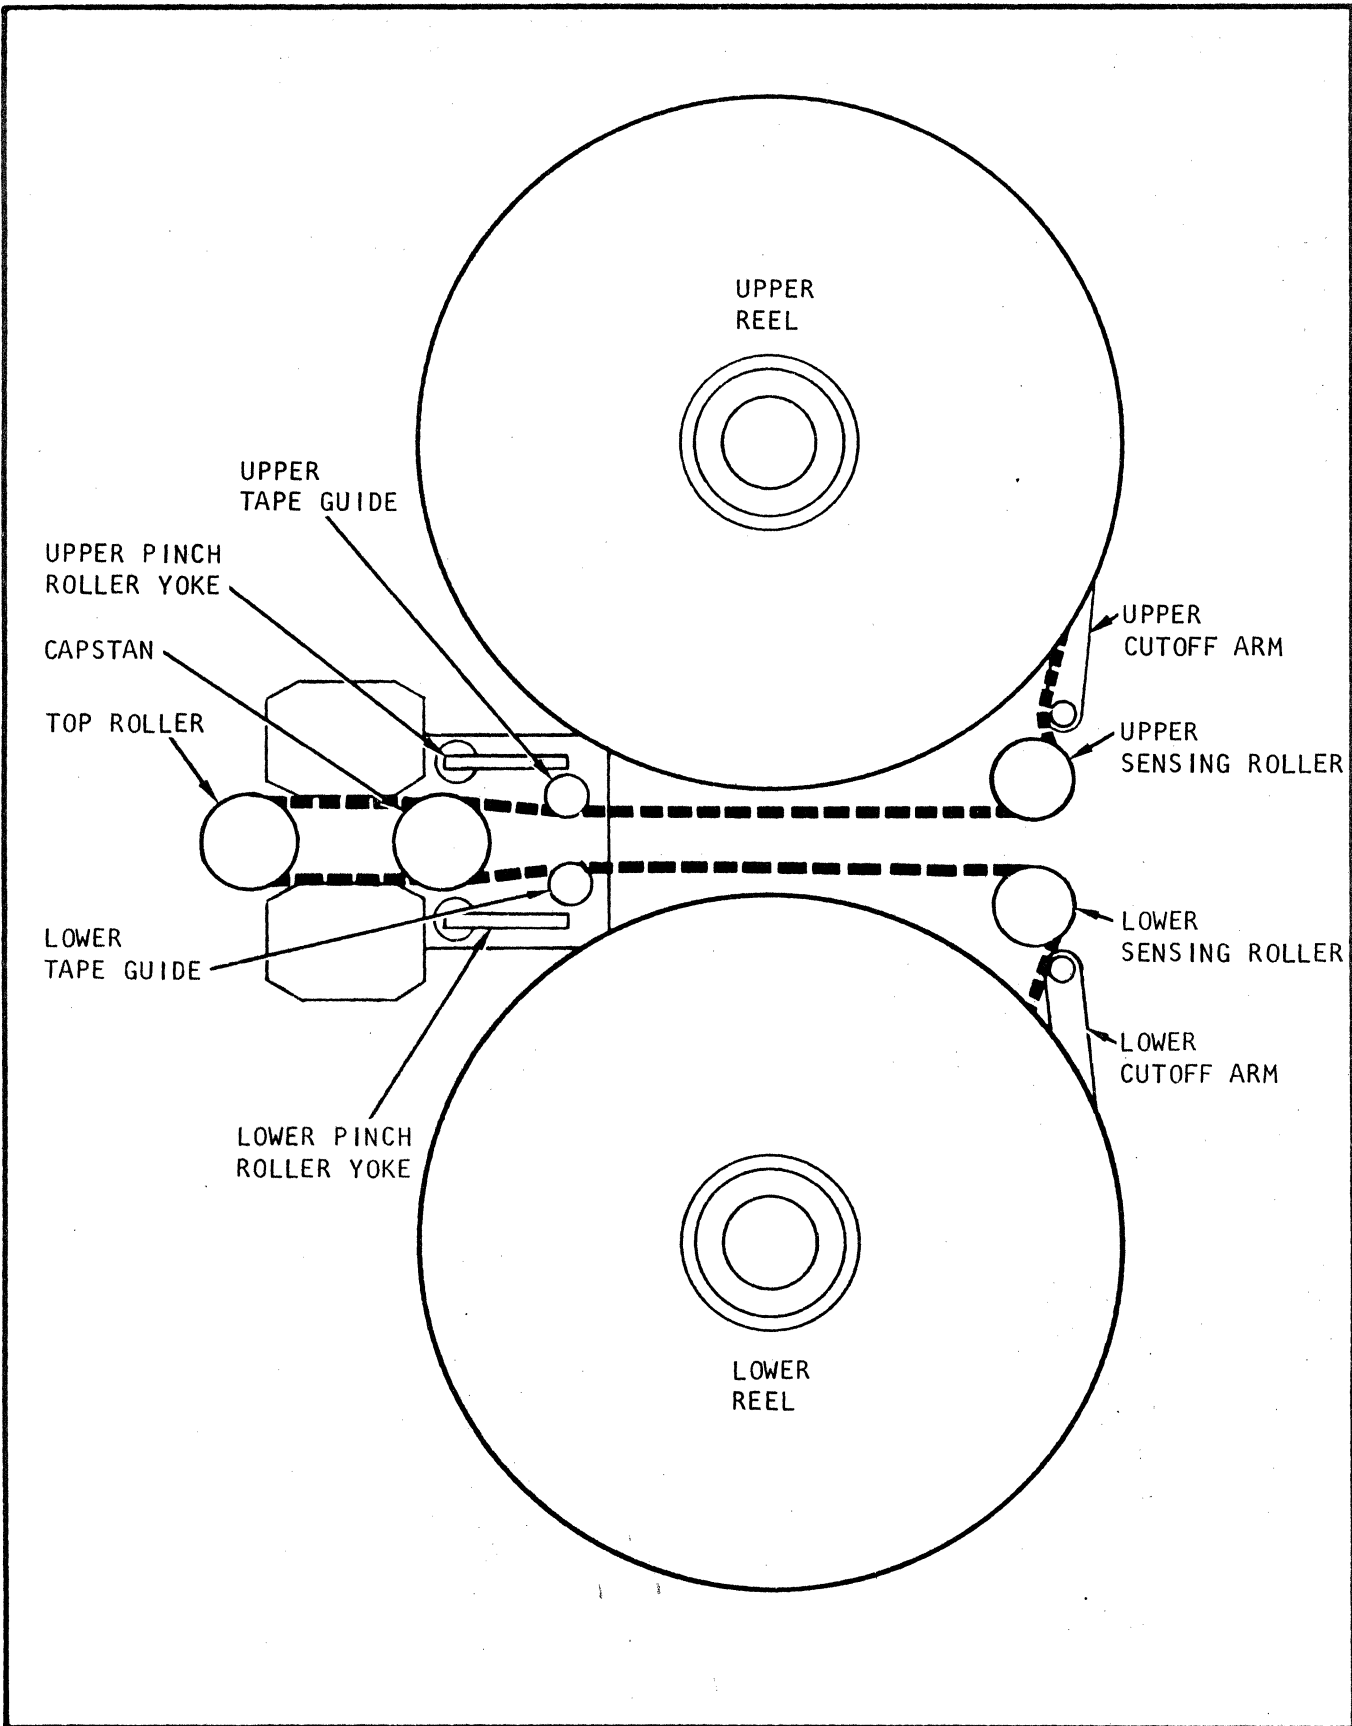

Figure 3-3. Tape Installation Threading Path
- d. Thread the tape through the tape path as shown in figure 3-3.